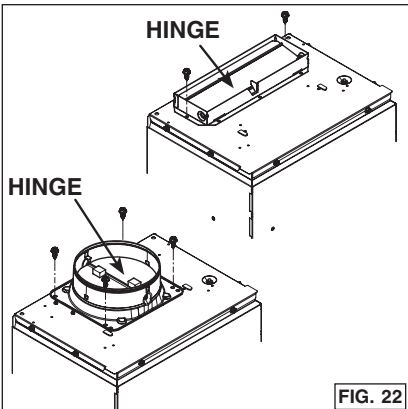

FIG. 22
10. For rectangular ducting, use 2 included no. 8-18 x 1/4" metal screws to attach the included 3/4" x 10" adapter damper on top of the unit, over the blower exhaust opening (FIG. 22).
For round ducting, use 4 included no. 8-18 x 1/4" metal screws to attach the included 6-in. round (or 8-in. round) adapter damper on top of the unit, over the blower exhaust opening (FIG. 22, 6-in. round shown). NOTE: The damper hinge must be parallel to the sides of the unit.